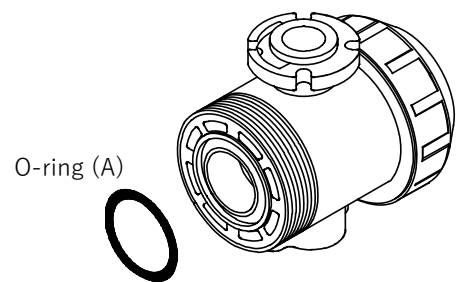

Figure 5.2-2
- 6) Confirm that the O-ring (A) is correctly installed on the body. (**Figure 5.2-2**)
- 7) Bring the end connector and union nut into contact with the body side so that the O-ring (A) does not come off.